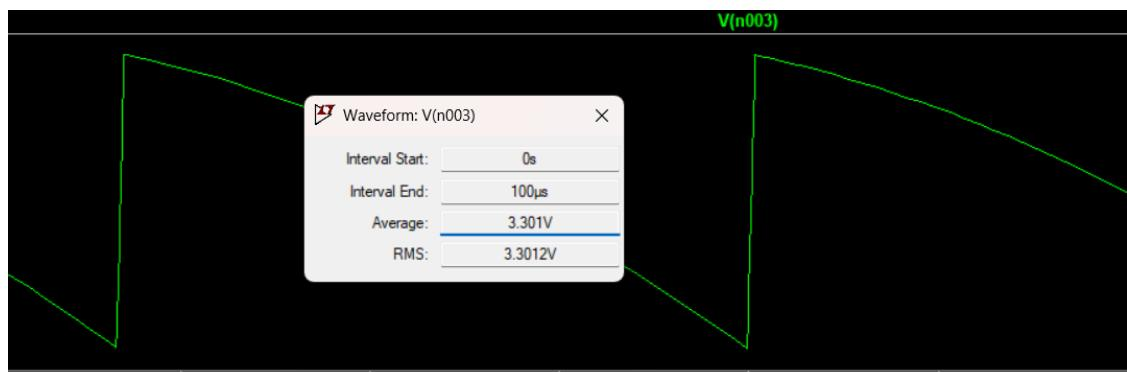

Fig. 7: Output voltage graph with value $V_o=3.3V$
g) As seen from Fig. 7, switching period is still $33.3\mu s$.